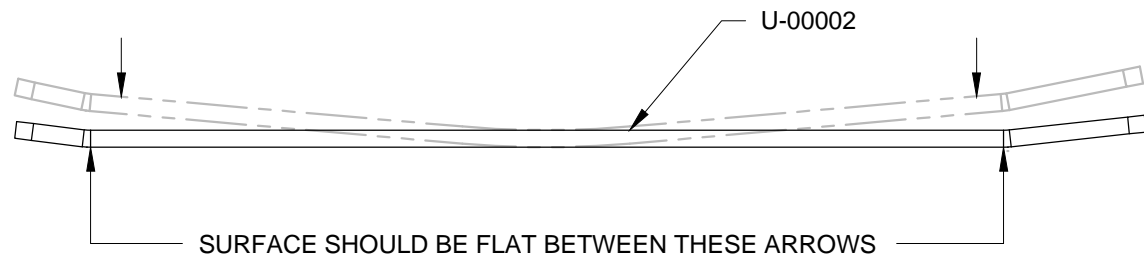

FIGURE 1: STRAIGHTENING THE WHEEL FAIRING BRACKETS
Step 1: Check the length of each U-00002 Wheel Fairing Bracket for curve. If the part is curved, straighten as shown in Figure 1.